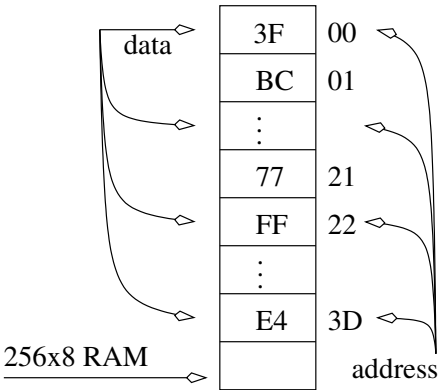

Figure 8.3: A 256x8 RAM loaded with some data.
The desired behavior of the circuit is illustrated in Figure 8.3. In this figure if PC=0 then the word at that address (3F) has a MSB of 0 so the PC is incrementde to 1. The word at address 1 is fetched (BC) and has an MSB of 1 so the least significant seven bits of BC are added to the PC, making its new value 3D. repeating this process sees the PC goto address 21, 22, 21, 22 into a never ending cycle. Make sure the solution identifies how to add the least significant seven bits to an 8-bit PC.